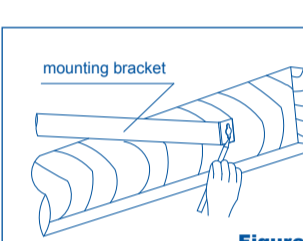

Figure 4
- a) Position housing between joists and extend mounting brackets. Position brackets so that bottom edge of housing will be flush with suspended ceiling. Mark the top of keyhole on all four mounting brackets (Figure 4).